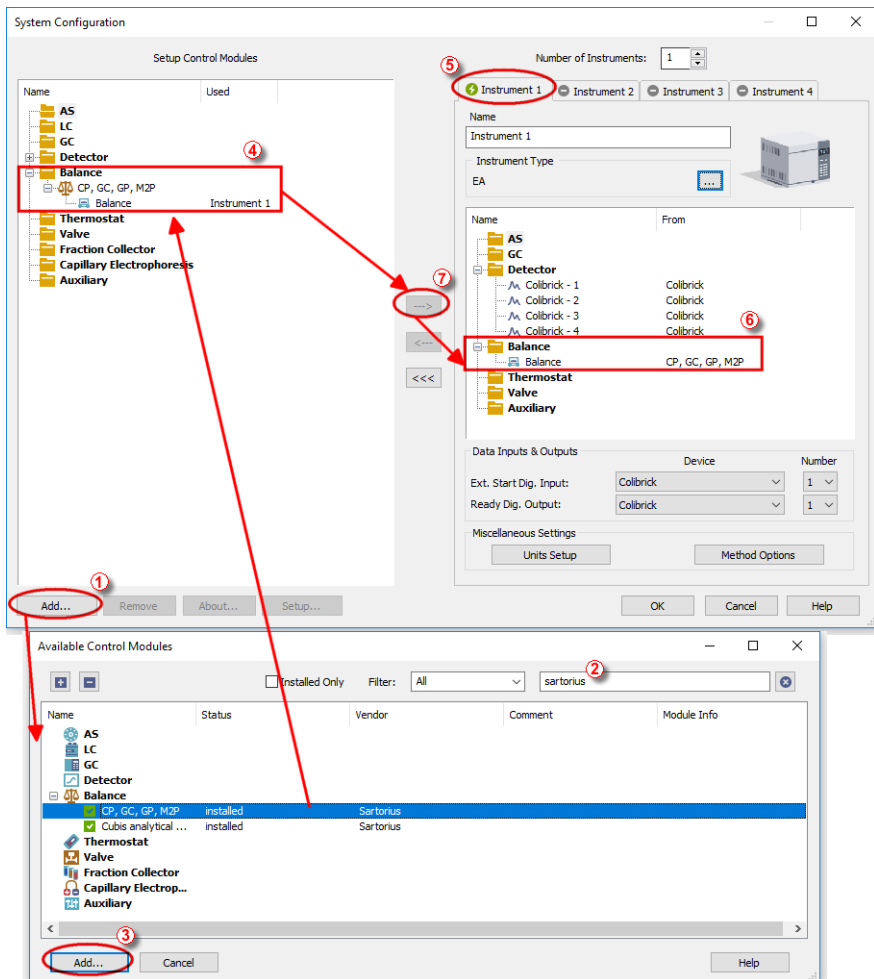

Fig 2: How to add Sartorius balances
- Press the **Add** button ① (see **Fig 2** on pg 4.) to invoke the **Available Control Modules** dialog.
- You can specify the searching filter ② to simplify the finding of the driver.
- Select the **Sartorius** balances and press the *Add* ③ button.